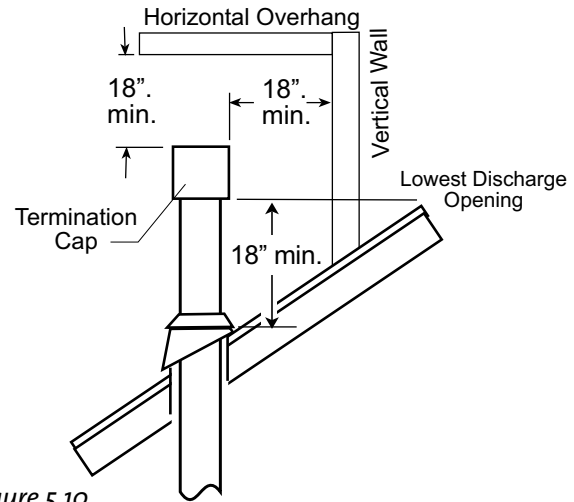

Figure 5.10.
- **Vent Terminus Clearance:** In no case shall any discharge opening on the cap be less than 18 in. (457 mm) horizontally from the roof surface. See fig. 5.10.